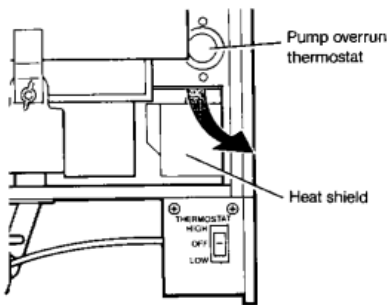

Fig. 19
7. Connect the thermocouple to the gas valve and pilot assembly. Ensure that the overheat cut-off device lead is in position in the gas valve before the thermocouple is secured to the gas valve, See Fig. 19.
5.6 To Replace the Overheat Cut-Off Device - See Fig. 19.
- Unscrew the thermocouple from the gas valve and withdraw the cut-off device lead. Unscrew the other cut-off device lead from the gas valve. See Fig. 19.
7. Disconnect the overheat cut-off device leads from the gas valve, See Fig. 19.